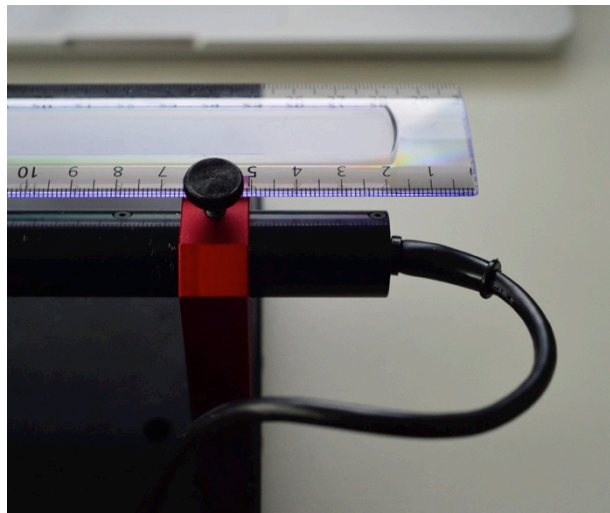

Figure 28. The source is adjusted to stick out approximately 30 mm from its holder.
- Use the setup as described above and mount the halogen source with a 30 mm source adjustment as shown below in Fig. 28.